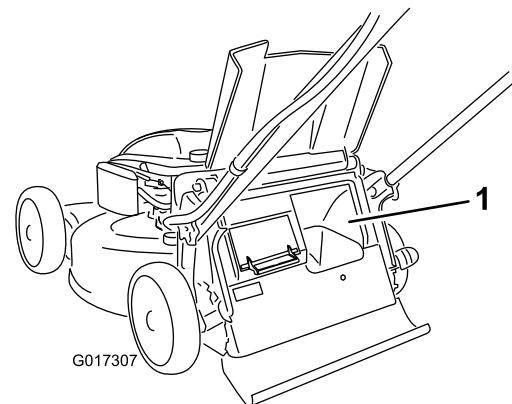

Figure 19
**Important:** For proper operation, remove any grass clippings and debris from the bag-on-demand door and the surrounding opening (Figure 19) before you move the bag-on-demand lever from one position to another.